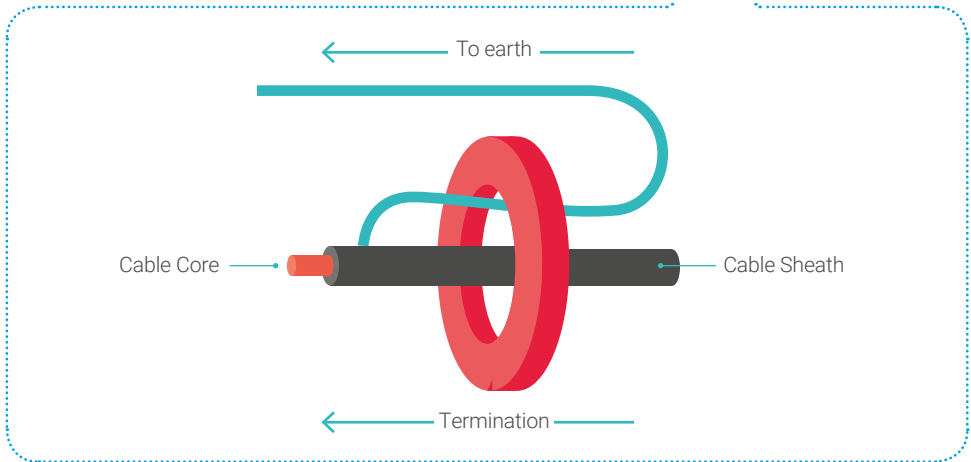

Figure 11: Close up - Overcoming cancellation of discharge currents by looping back earth strap
- i. By monitoring the earth cable only (A) - the preferred connection method
- ii. By monitoring the line conductor without the earth (B)
- iii. By monitoring the line conductor and earth within the sheathing and the earth cable external to the sheathing, when passed back through the RFCT (D, close up Figure 11).